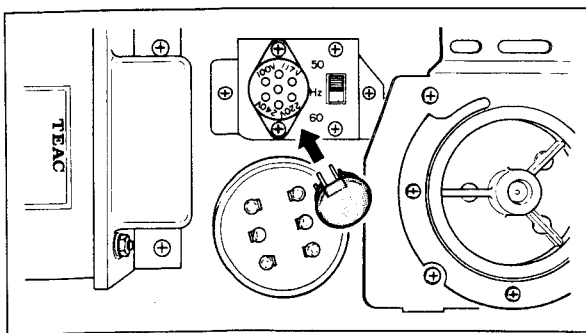

Fig. 8-1 Power Line Setting Location
2. Locate the voltage selector plug shown in Fig. 8-1.
To change the selected power line frequency, just set the slide switch pictured in Fig. 8-1 to the 50 or 60 Hz position as desired. Remove the outer case of the transport Unit for access to the slide switch.